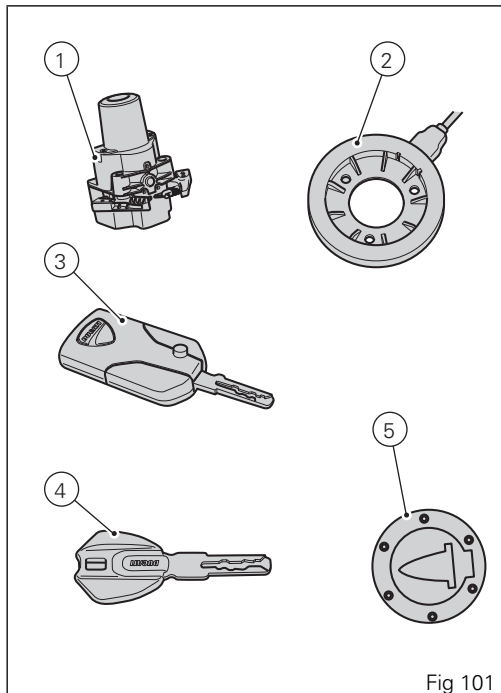

Fig 101
A key-On can be performed by pressing the red button (6) on the handlebar in the HANDS FREE ON/OFF position and in the presence of the active key (3, Fig 101).
Key-Off can be performed by pressing the red button (6) on the handlebar in the HANDS FREE ON/OFF position. It can be done also without the key (3, Fig 101) only if the motorcycle speed is equal to zero.
Key-On can be performed by pressing the button (7) on the Hands Free lock (1, Fig 101) and with the presence of the active key (3, Fig 101) .
Key-Off is performed by pressing the button (7) on the Hands Free lock (1, Fig 101) , also without the key (3, Fig 101) .
A key-On can be performed by pressing the red button (6) on the handlebar in the HANDS FREE ON/OFF position and in the presence of the passive key (4, Fig 101).
Key-Off can be performed by pressing the red button (6) on the handlebar in the HANDS FREE ON/OFF position. It can be done also without the key (4, Fig 101) only if the motorcycle speed is equal to zero.
Key-On is performed by pressing the button (7) on the Hands Free lock and with the presence of the passive key (4, Fig 101) .
Key-Off is performed by pressing the button (7) on the Hands Free lock (1, Fig 101) , also without the key (4, Fig 101) .
Key-On can be performed by pressing the button (7) on the Hands Free lock (1, Fig 101) without the presence of the keys (3, Fig 101) and (4, Fig 101) and entering the pin code on the instrument panel.